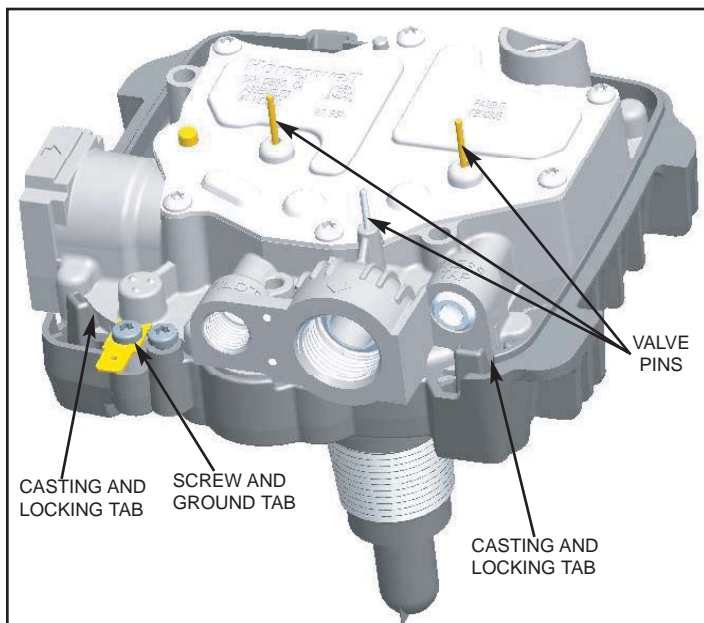

Figure 30 Disassembly Step 4
2. Remove the screw and the ground tab with a Torx screwdriver (see Figure 30).